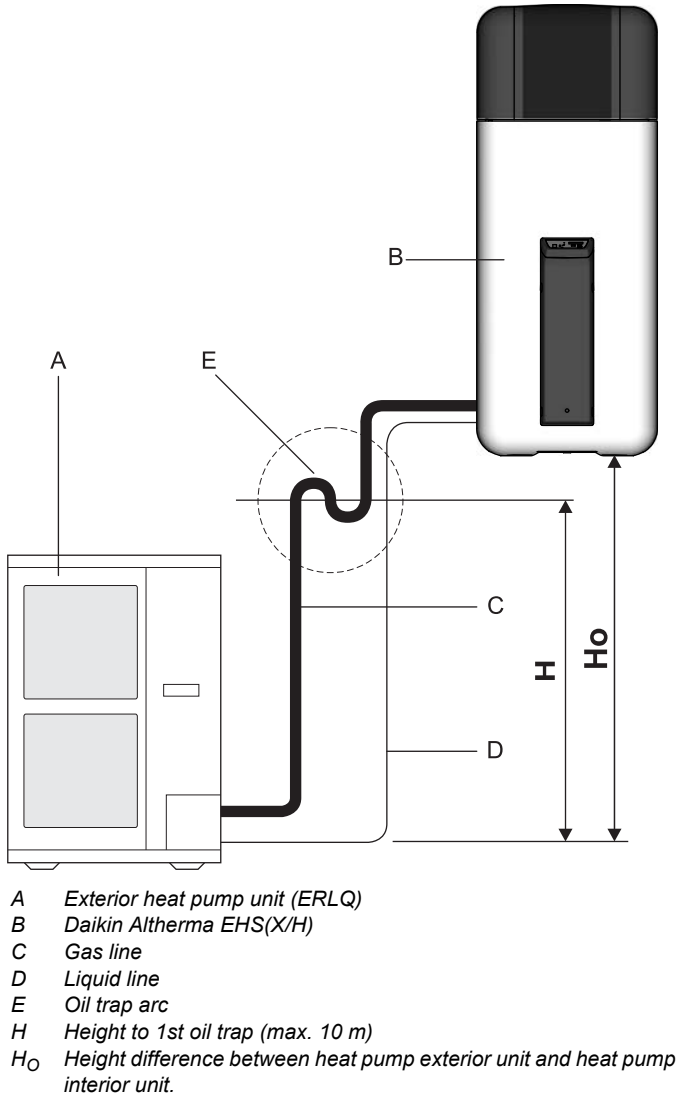

Fig. 3-36 Oil trap arc coolant line
- Required if Daikin Altherma EHS(X/H) is not installed at ground level with the heat pump exterior unit (fig. 3-36,  $H_O \geq 10$  m).
- At least one oil trap arc must be installed every 10 m difference in height (fig. 3-36, H = clearance from oil trap arc to oil trap arc).